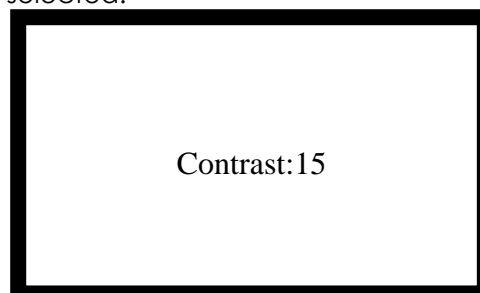

Fig. 4-25
- Selecting "1.Contrast" enters the screen of Fig.4-25. Pressing **▲** and **▼** modifies the contrast of the LCD. Press **Menu/ENT** to save the modification and exit. Press **ESC** to cancel the operation.